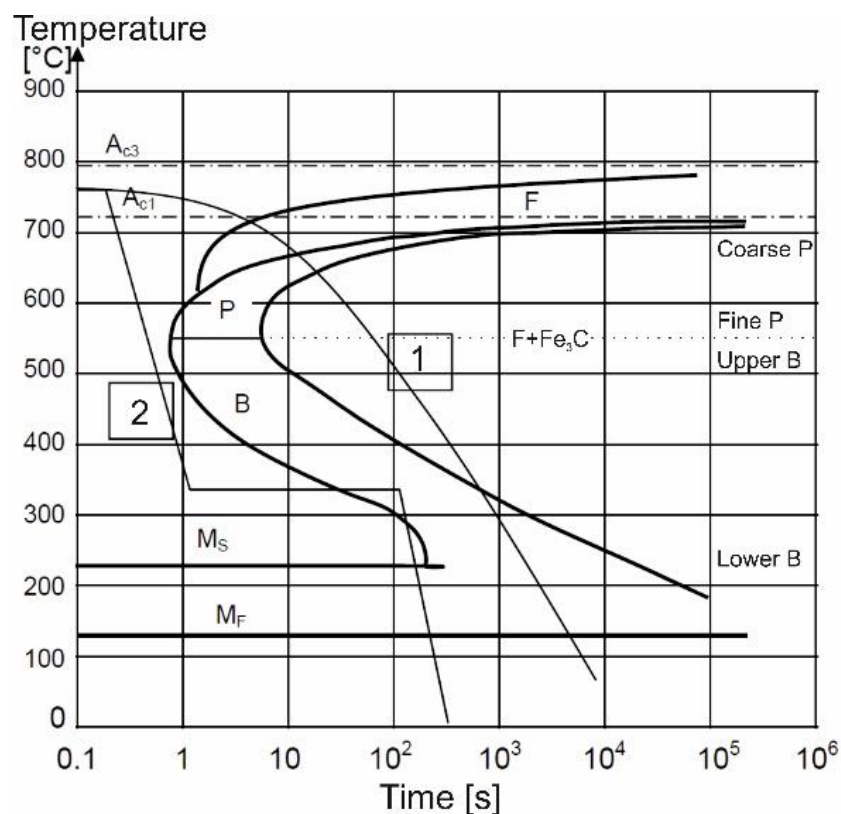

Figure 3: TTT diagram
Your next job is to decide for a heat treatment cycle for a batch of forged shafts ($l = 250 \text{ mm}$, $\varnothing 35 \text{ mm}$) made from a low alloyed 30NiCrMo12-6 steel. You know that you have to austenitize it first, followed by quenching in oil and subsequent tempering. Your colleague gives you the time-temperature-transformation (TTT) diagram for the steel, shown in Figure 3.
- e) From Figure 3, can we determine what phases form for the processing routes labeled 1 and 2? If so, try to estimate the final phase composition.